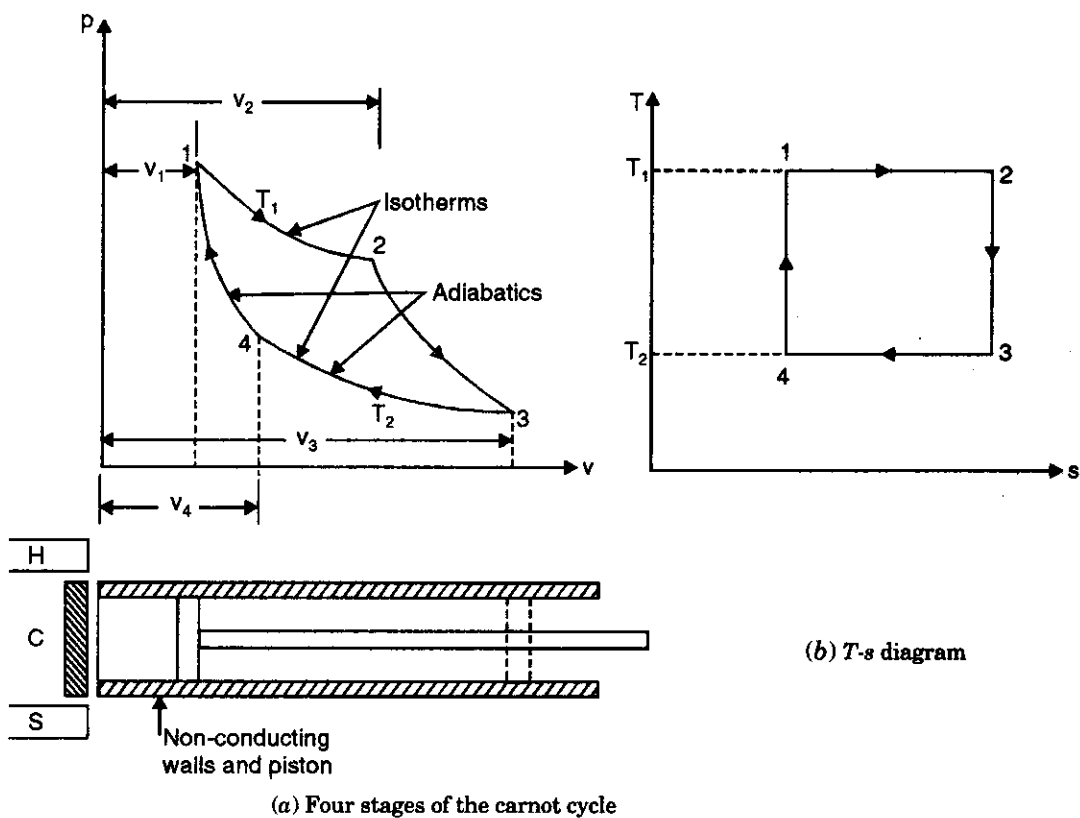

Fig. 13.1. Carnot cycle.
Following are the *four stages* of the Carnot cycle. Refer Fig. 13.1 (a).
**Stage (1).** Line 1-2 [Fig. 13.1 (a)] represents the isothermal expansion which takes place at temperature  $T_1$  when source of heat  $H$  is applied to the end of cylinder. Heat supplied in this case is given by  $RT_1 \log_e r$  and where  $r$  is the ratio of expansion.
**Stage (2).** Line 2-3 represents the application of non-conducting cover to the end of the cylinder. This is followed by the adiabatic expansion and the temperature falls from  $T_1$  to  $T_2$ .
**Stage (3).** Line 3-4 represents the isothermal compression which takes place when sump 'S' is applied to the end of cylinder. Heat is rejected during this operation whose value is given by  $RT_2 \log_e r$  where  $r$  is the ratio of compression.
**Stage (4).** Line 4-1 represents repeated application of non-conducting cover and adiabatic compression due to which temperature increases from  $T_2$  to  $T_1$ .